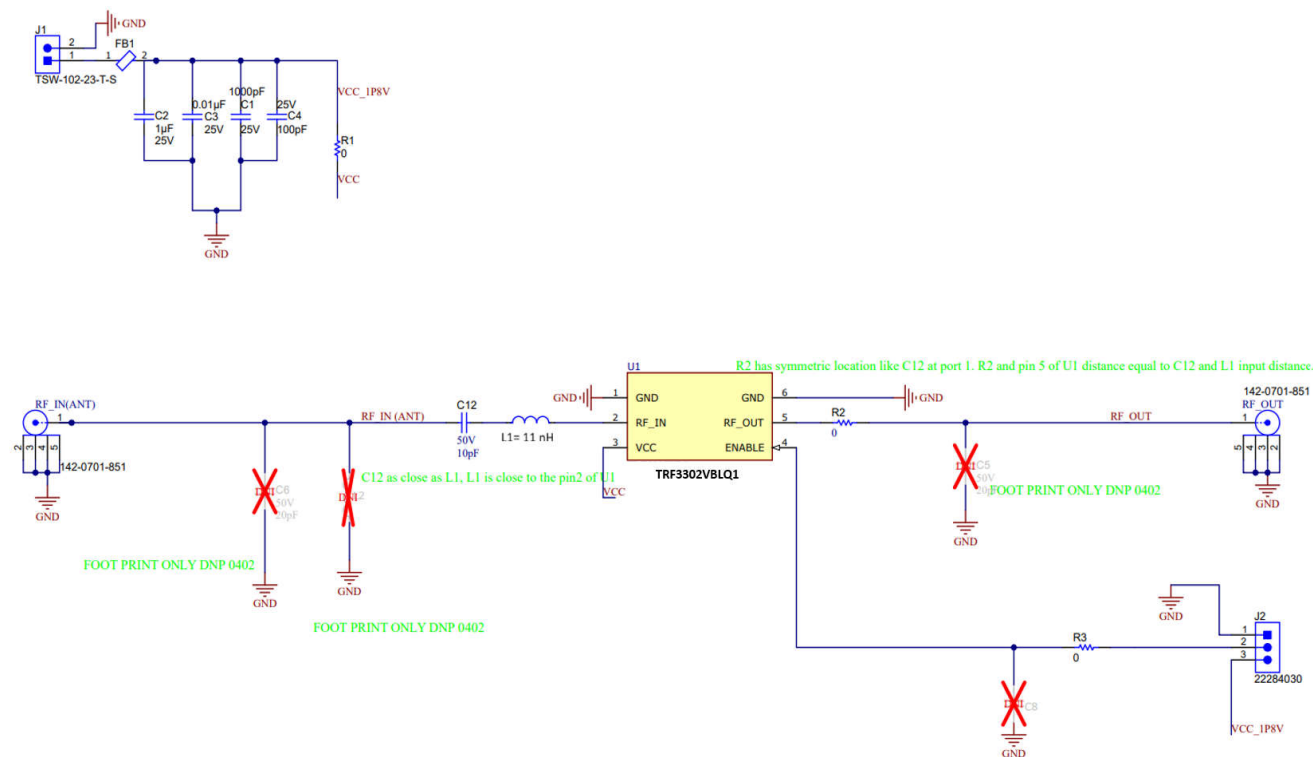

Figure 3-2. TRF3302Q1EVM Schematic for L2/L5 Bands
3. Additional three L1 = 11nH inductors are provided with the EVM kit to replace L1 and optimize the TRF3302-Q1 to support 1165MHz to 1320MHz (L2/L5 band) as shown in Figure 3-2.